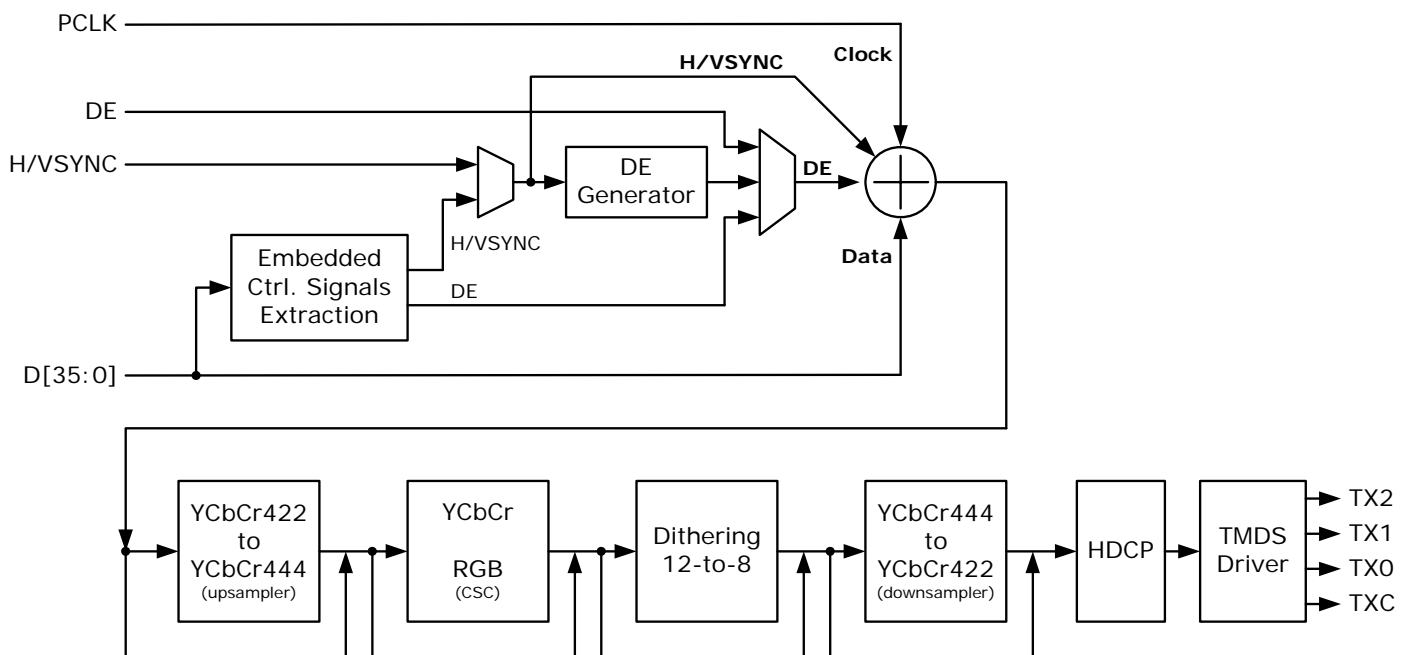

Figure 3. Video data processing flow of the CAT6613
Figure 3 depicts the video data processing flow. For the purpose of retaining maximum flexibility, most of the block enablings and path bypassings are controlled through register programming. Please refer to CAT6613 Programming Guide for detailed and precise descriptions.
As can be seen from Figure 3, the first step of video data processing is to prepare the video data (Data), data enable signal (DE), video clock (Clock), horizontal sync and vertical sync signals (H/VSYNC). While the video data and video clock are always readily available from input pins, the